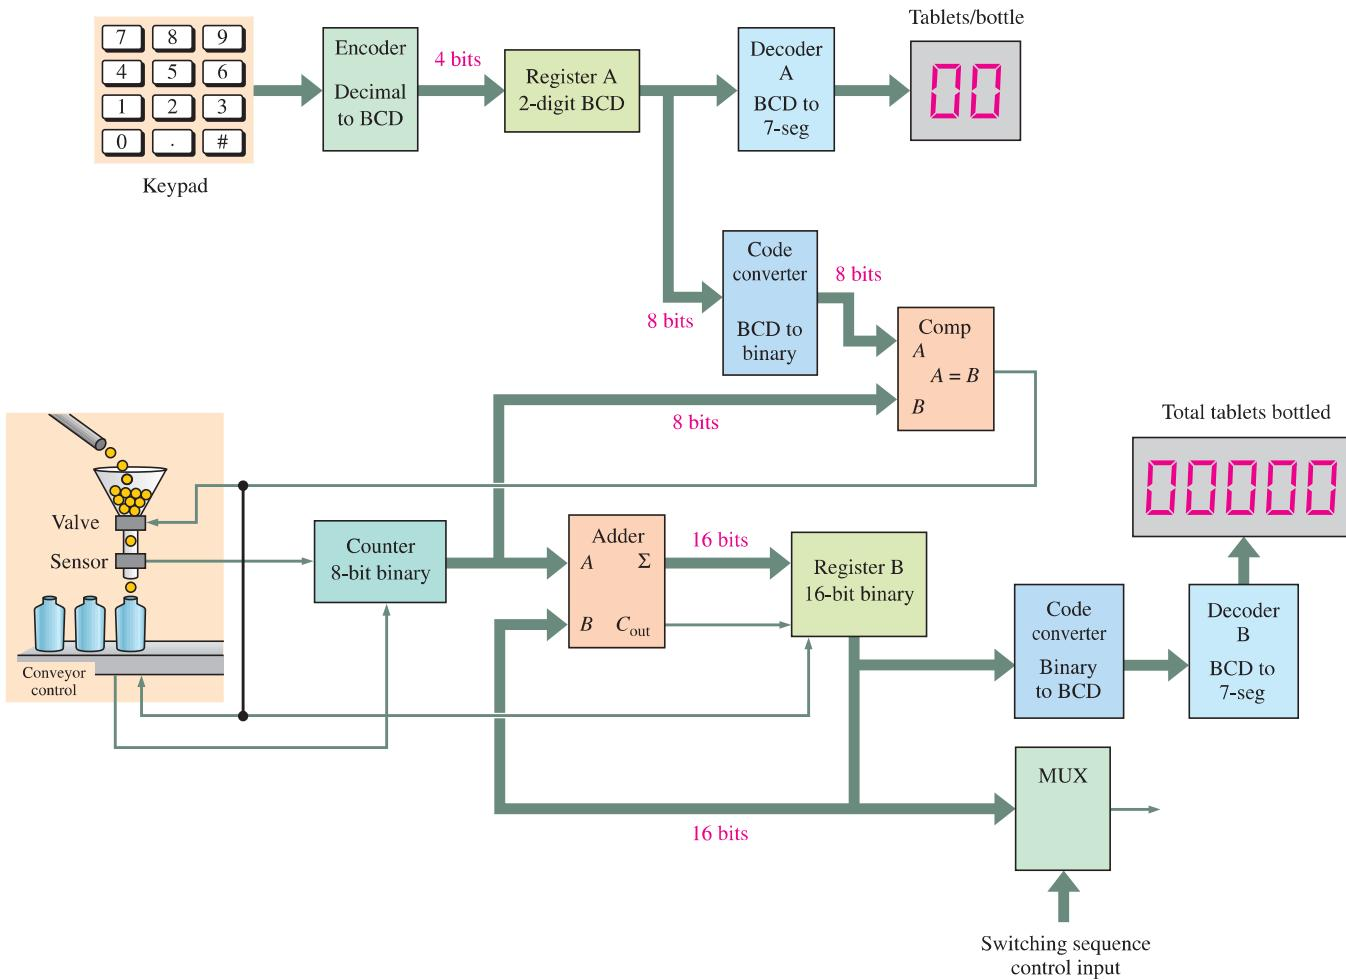

FIGURE 6–87
47. Using two of the 6-position adder modules from Figure 6–13, design a 12-position voting system.
48. The adder block in the tablet-bottling system in Figure 6–87 performs the addition of the 8-bit binary number from the counter and the 16-bit binary number from Register B. The result from
49. Use 74HC85s to implement the comparator block in the tablet-bottling system in Figure 6–87 and draw a complete logic diagram including pin numbers. The comparator compares the 8-bit binary number (actually only seven bits are required) from the BCD-to-binary converter with the 8-bit binary number from the counter.
50. Two BCD-to-7-segment decoders are used in the tablet-bottling system in Figure 6–87. One is required to drive the 2-digit *tablets/bottle* display and the other to drive the 5-digit *total tablets bottled* display. Use 74HC47s to implement each decoder and draw a complete logic diagram including pin numbers.
51. The encoder shown in the system block diagram of Figure 6–87 encodes each decimal key closure and converts it to BCD. Use a 74HC147 to implement this function and draw a complete logic diagram including pin numbers.
52. The system in Figure 6–87 requires two code converters. The BCD-to-binary converter changes the 2-digit BCD number in Register A to an 8-bit binary code (actually only 7 bits are required because the MSB is always 0). Use appropriate fixed-function IC code converters to implement the BCD-to-binary converter function and draw a complete logic diagram including pin numbers.